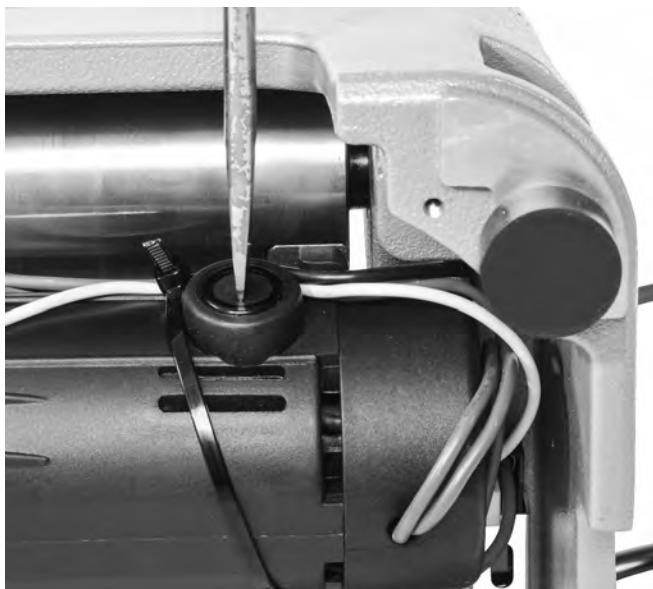
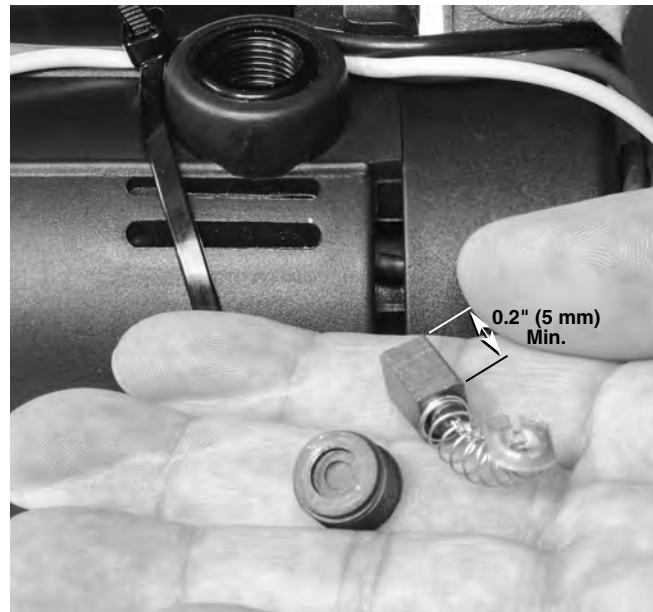

Figure 17 – Removing Brush Cap
Figure 18 – Inspect Brush Length
3. Use a screwdriver to unscrew and remove the brush caps (*Figure 17*). Gently remove the carbon brushes and check the length (*Figure 18*). If brush length is less than 5 mm (0.2"), change brushes.